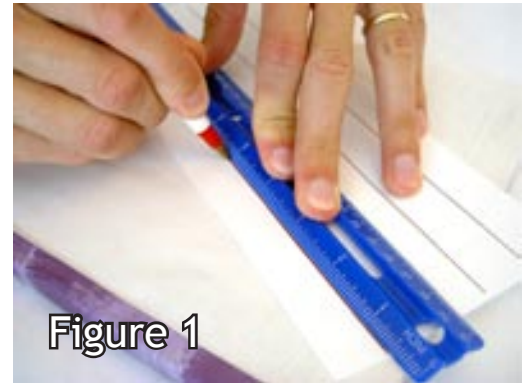

Figure 1
1. Take one of the white beam or column templates and trace along all four thick dotted lines using a ruler and ball-point pen. Your goal is to score (dent) the paper so that it will fold easily along the correct line. Put a magazine or catalog under the template to make this task easier. (fig. 1)